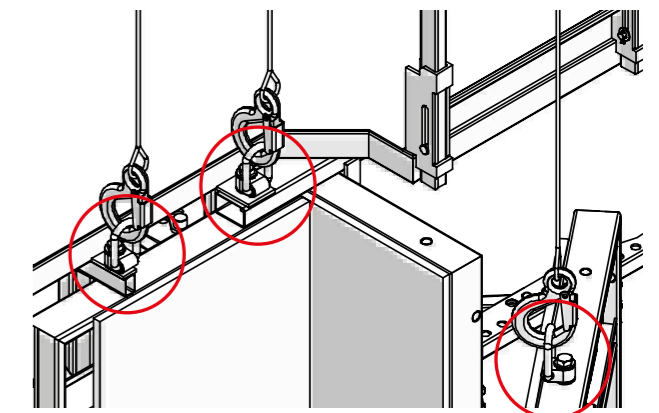

Fig. 3
Place the washer onto the threaded rod and secure the CF transport device 130 to the CF column panel using the wing nut. Attach the third CF transport device 130 to a transport hole in the opposite CF column panel as described above in order to transport the erected column formwork (Fig. 3).
- Always attach three CF transport devices 130 to move the CF unit (Fig. 3).